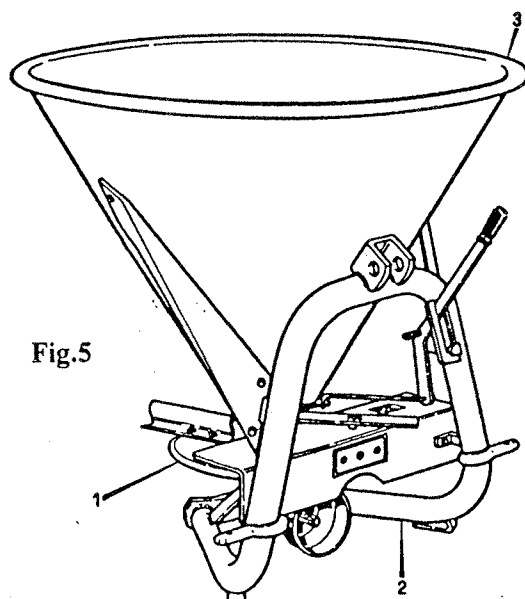

Fig.5
(vedi fig.5)
The machine essentially consists of: (see fig.5)
- 1- Fix the gear-box (1) to the frame(t).
- 2- Mount the spreading disc (2) on the gear box (1) and fix it by the proper pin.
- 3- Fix the guard (3) to the frame (t).
- 4- Fix the two side supports (4) to the frame.
- 5- Introduce the snap ring, the washer the dosing-disc and the adjustment disc in the gear box (see fig.5).
- 6- Fix the hopper (6) to the side supports (4) and to the frame.
- 7- Introduce the agitator bush guide (7) in the unloading hole.
- 8- Fix the agitator (8) on the shaft of the unit.
- 9- Mount the hopper reinforcement bar (9) and fix it together with the side supports (4) by the fit screwstt.